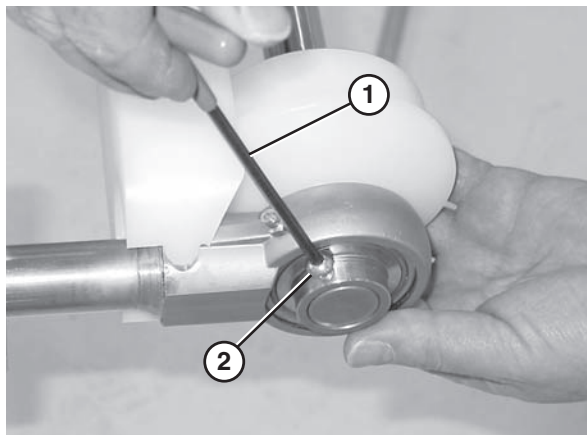

Figure 86
- Use a hex wrench (Figure 86, item 1) to tighten the bearing shaft fasteners (Figure 86, item 2) to 54 in•lbs (6 N•m). Check after 24 hours of conveyor use.